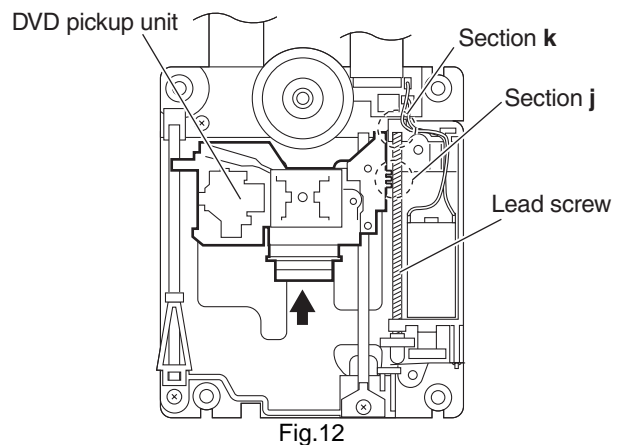

Fig.12
- (3) Slide the DVD pickup unit all the way in the direction of the arrow. (See Fig.12.)
- (4) Mesh the lead screw to the section **j** of DVD pickup unit and then set the end of the lead screw to the section **k**. (See Fig.12.)